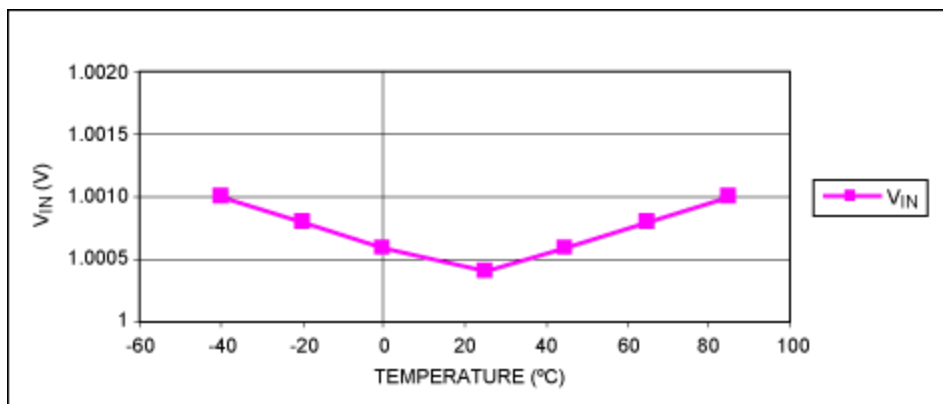
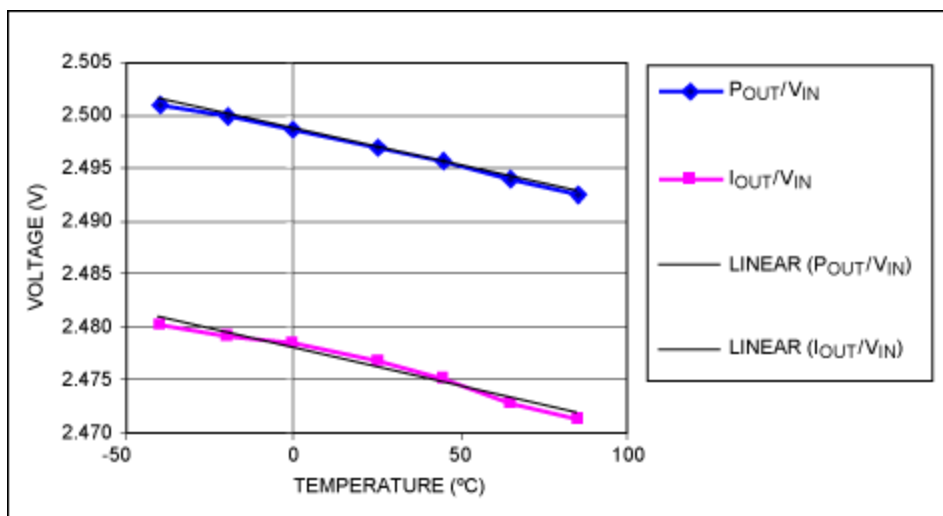

Figure 2. V_{IN} vs. temperature for the Figure 1 circuit.
Figure 3. P_{OUT}/V_{IN} and I_{OUT}/V_{IN} vs. temperature for the Figure 1 circuit, with $V_{SENSE} = 100mV$.
A graph of the multiplier input (IN) vs. temperature, with V_{CC} = 5V and V_{SENSE} constant at 100mV, shows the effect of temperature on the reference voltage (Figure 2). To see the advantage of the ratiometric output at P_{OUT}, compare the P_{OUT}/V_{IN} ratio and its linear ideal with the I_{OUT}/V_{IN} ratio and its linear ideal, as they vary with temperature (Figure 3). Note that the ratiometric P_{OUT} output (top) does not deviate from the ideal.